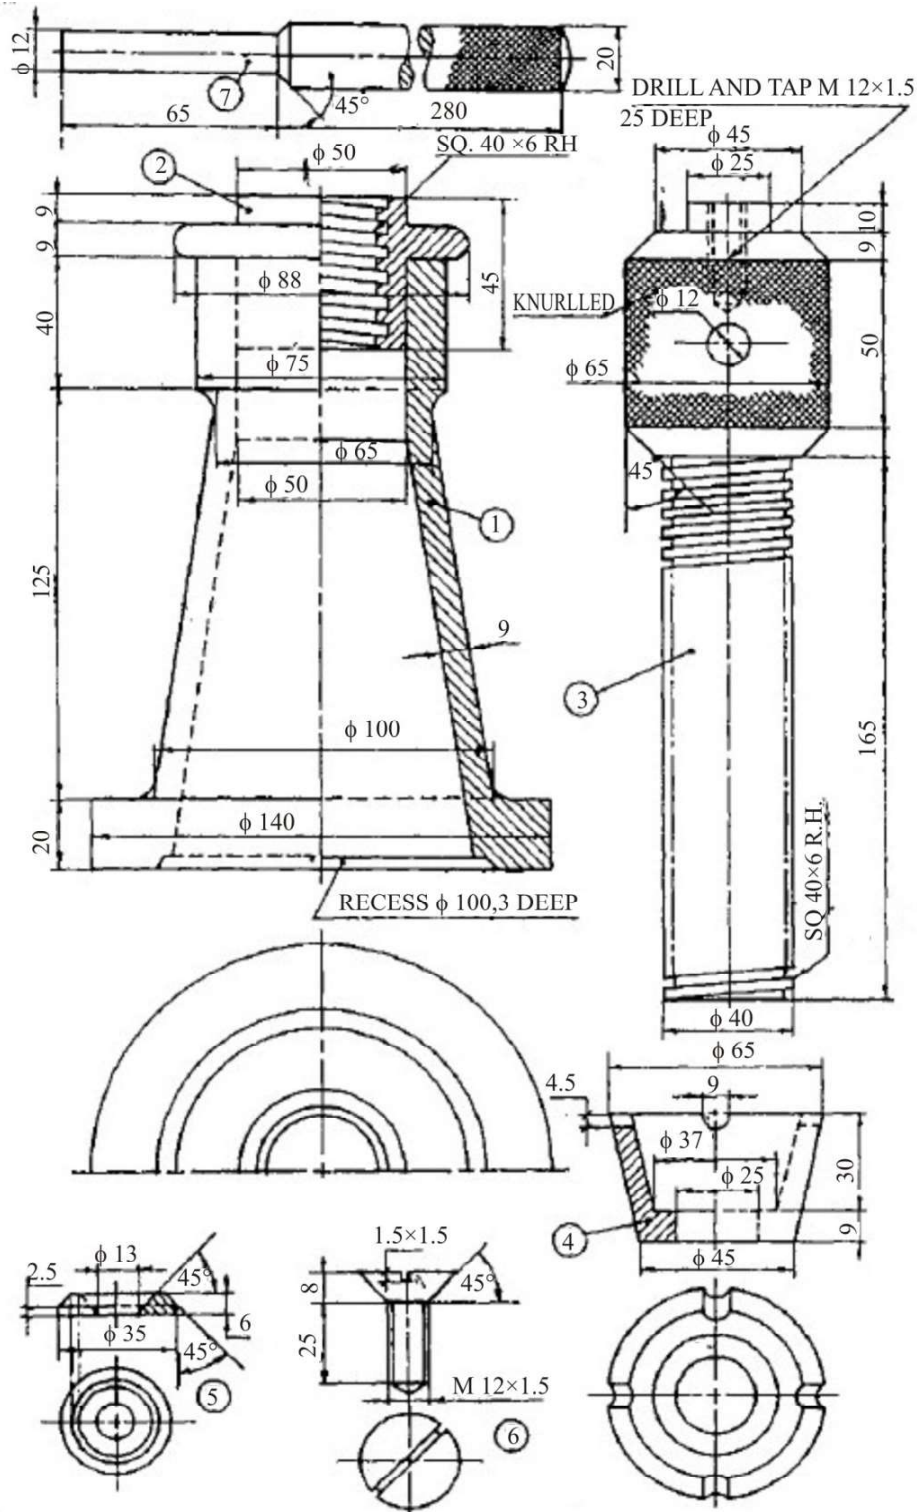

Fig. 3 Detail drawing of a screw Jack
9. Draw the full sectional Front view and Top view of the screw-jack assembly as shown in Figure.3. Also make Bill of Materials.